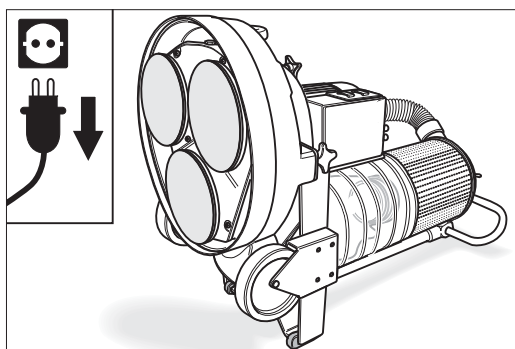

Fig. 6 Tilt the machine backwards so that you can access the gears. **Make sure the machine is in a safe position!**
- 4 While holding on to the handle, carefully tilt the machine backwards into a horizontal position. Make sure that the machine gets to rest safely on the guide tube and the two protective cushions (Fig. 6). **Make sure the machine is in a safe position!**